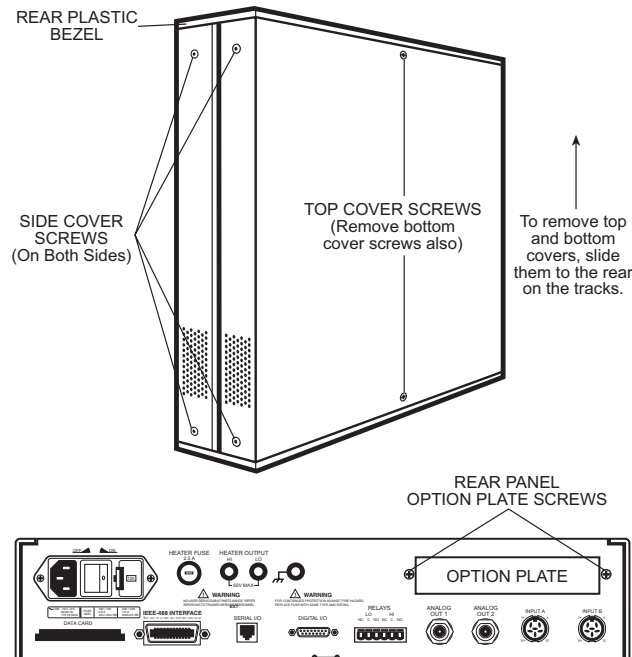

Figure 1. Cover and Option Plate Screws
2. Stand the unit on its face. Use the Allen wrench to remove the 4 screws on each side of the covers (Figure 1).